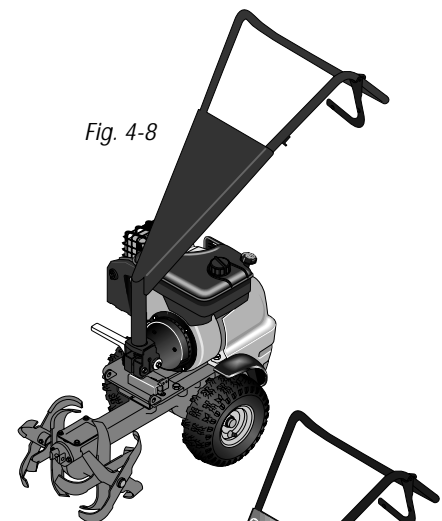

Fig. 4-8
8. The equipment is now ready for front tine tilling and cultivating! See Fig. 4-8.
1. Be sure the equipment is in front tine tiller/cultivator mode (See Fig. 4-8 and 4-12). **The handlebar must be positioned over the engine and the tine hood removed.** (See Page 14 for instructions.)